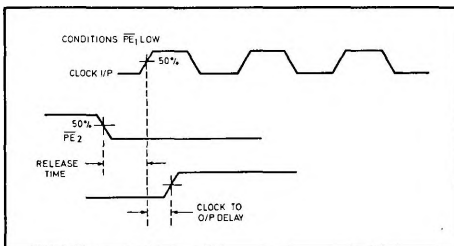

Fig. 4 Release timing diagram
- Release time is defined as the minimum time that can elapse between a H \rightarrow L transition of a control input and the next L \rightarrow H clock pulse to ensure that the \bar{Q} mode is forced by that clock pulse (see Fig. 4).